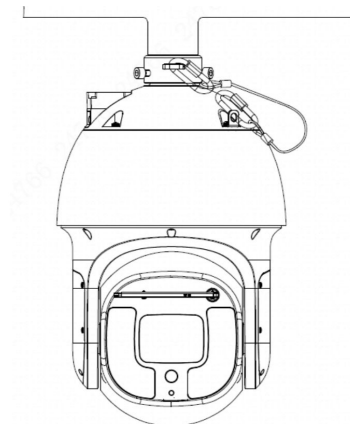

Figure 2-4
**Step 4** Confirm that the screws on the quick mounting connector are tightened securely, the safety buckle is reliably connected and the speed dome is firmly fixed. The speed dome installation is completed after confirmation. See Figure 2-4.